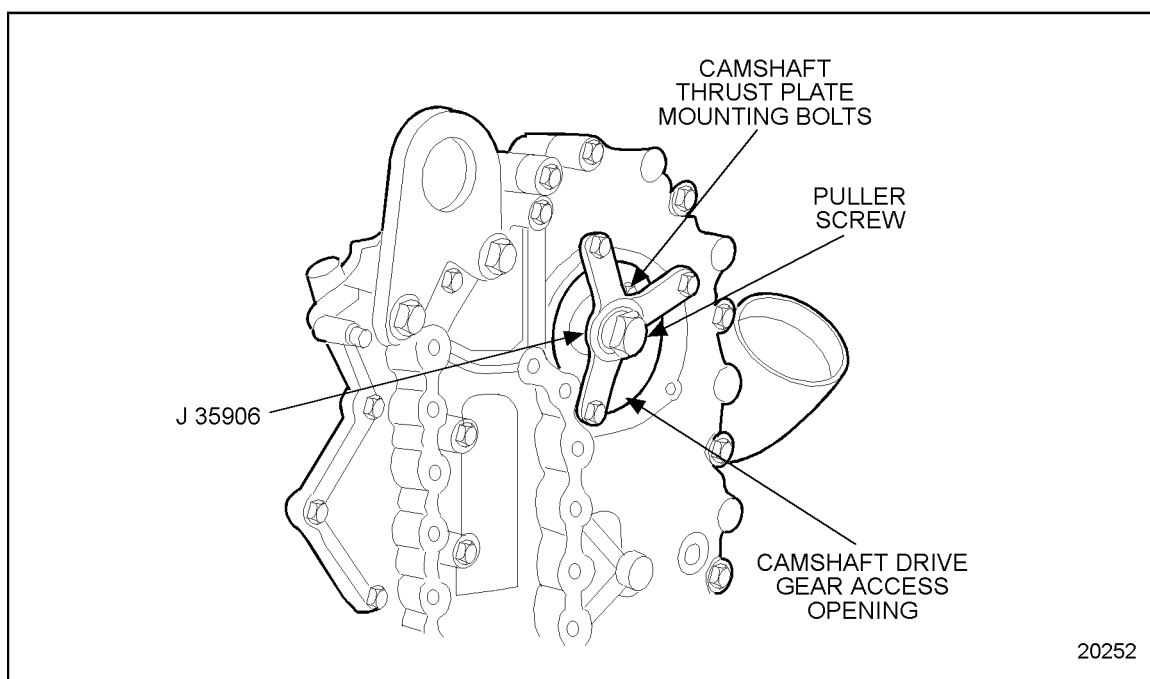

Figure 1-353 Camshaft Thrust Plate Remover
11. Install J 35906, to the camshaft drive gear access opening, using three of the access cover bolt holes. Engage the puller screw in the threads of the camshaft drive gear hub, until the screw is tight. See Figure 1-353.